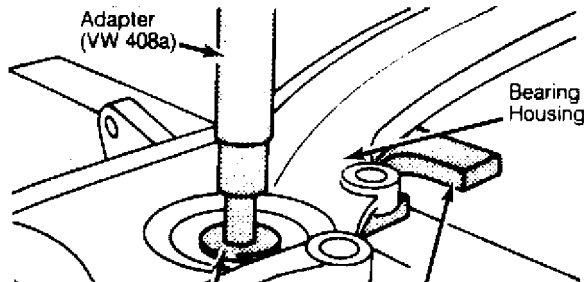

Fig. 4: Pressing Wheel Hub from Housing
2) Mount wheel bearing housing and Housing Support (VW 401) in press. Press wheel hub from bearing using Adapters (VW 408a and 40-105). See Fig. 4.